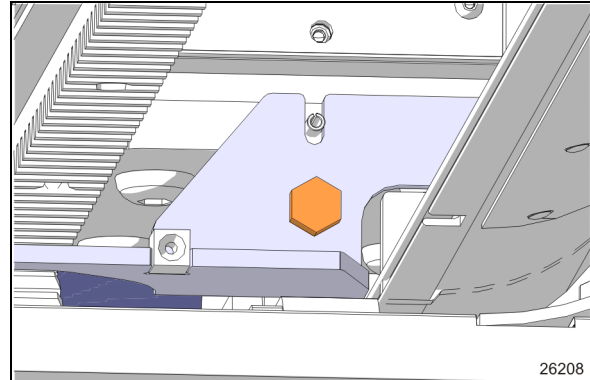

FIGURE 17: FLEX COVER ANCHOR PLATE
6. Remove the flexible cover anchor plate to provide clearance moving in. (Figure 17).